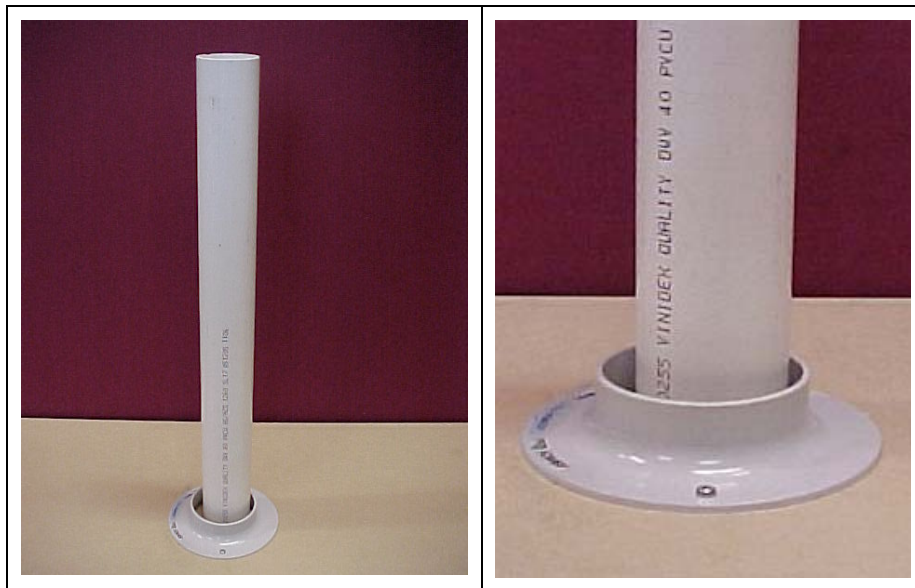

FIGURE 2 - PROJECT "ABC" MODEL TREE
14. Each tree will be represented by a 400 mm length of PVC pipe (DWV “Vinidex” 40 mm Pipe) with square cut ends standing vertically in a random position within an oversized collar (see Figure 2).